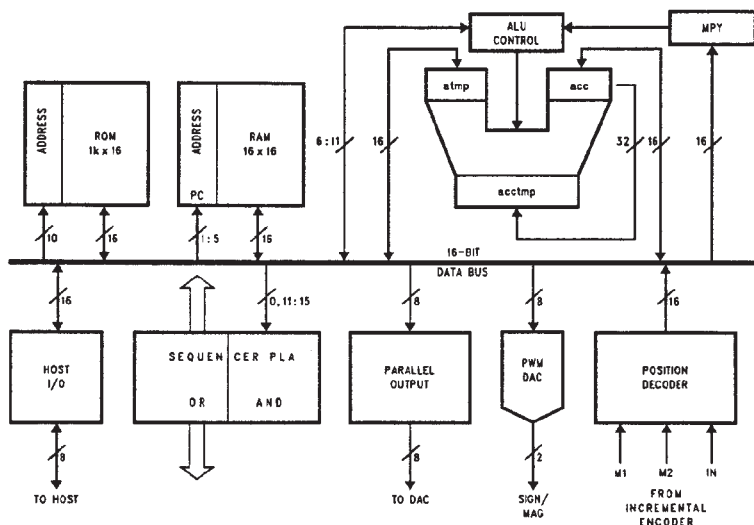

FIGURE 2. Hardware Architecture of LM628/629
- Figure 2. Hardware Architecture of LM628/629
Details of how LM628/629 is implemented by a purpose designed microcontroller are shown in *Figure 2*. The control algorithm is stored in a 1k x 16-bit ROM and uses 16-bit wide instructions. A PLA decodes these instructions and provides data transfer timing signals for the single 16-bit data and instruction bus. User variable filter and trajectory profile parameters are stored as 32-bit double words in RAM. To provide sufficient dynamic range a 32-bit position register is used and for consistency, 32 bits are also used for velocity and acceleration values. A 32-bit ALU is used to support the 16 x 16-bit multiplications of the error and PID digital filter coefficients.